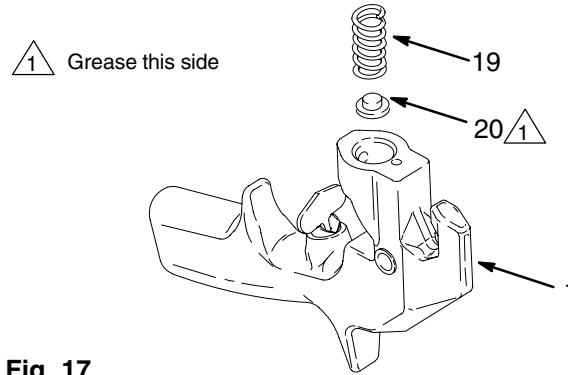

Fig. 17 03979
5. If the spring (19) was removed, grease the spring adjuster (20) and place the spring. Drop this assembly into the gun body (1). See Fig. 17.